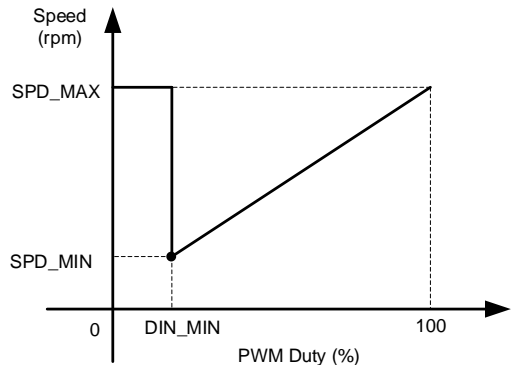

Figure 3: Speed Curve if SPD_ZERO = 0 and MAX_EN = 1
2. If SPD_ZERO = 0 and MAX_EN = 1, then SPD_MAX determines the speed (see Figure 3).